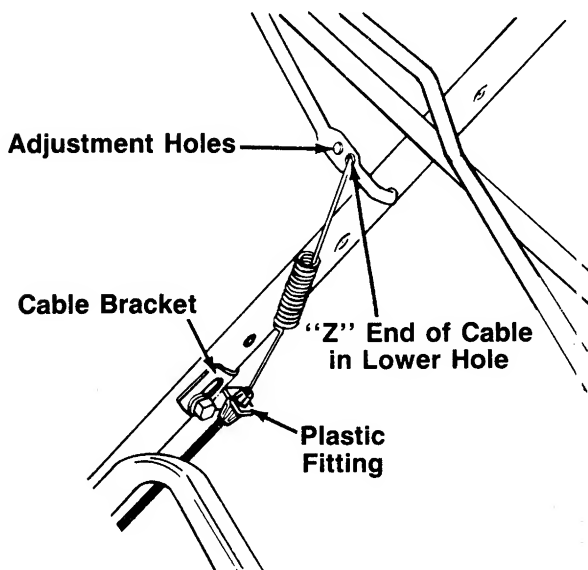

FIGURE 5.
1. The drive clutch cable is attached to the drive cover, and has a spring on one end. Route the cable under the cover lower handle. Hook the spring on the end of the cable into the lower hole on the drive clutch handle. See figure 5.
3. With the drive clutch control handle released, pull down on the cable and cable bracket until there is a minimum of 1/8" clearance between the drive pinions and the drive wheels. See figures 5 and 6. Tighten the cable bracket in this position.